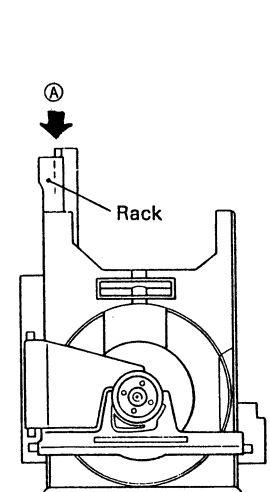
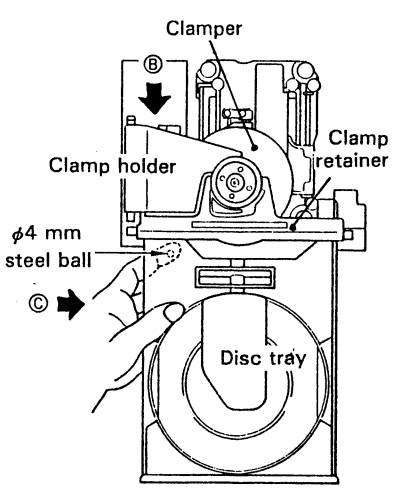

Figure 3-4
Figure 3-5
1. While pushing the rear edge of the rack (A) in Figure 3-4 (\*1), pull out the disc tray until it pauses (as shown in the Figure 3-5).
- (\*1) When the rear edge of the rack (A) is pushed, the clamp of the disc will be released, further push the disc tray until it comes out.
2. While pulling up the clamp holder (B) in Figure 3-5 with the right hand, hold the disc tray (C) with the left hand and pull it out towards you. Be careful that the φ4mm steel ball does not fall down (pull out the disc while supporting the ball with the left index finger).